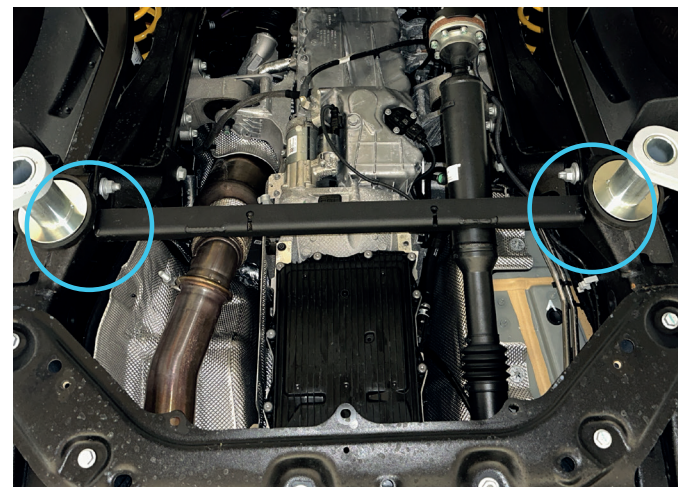

Fig. 4
\*If you install with RIVAL engine skid plate, unscrew the beam and remove the spacer from step 3 of the RIVAL engine skid plate installation manual. Install the front arm skid plates (right and left) (items 3,4) with the engine skid plate beam using bolts M10x140, washers 10 and nuts M10 (items A,B,C) (Fig. 4).